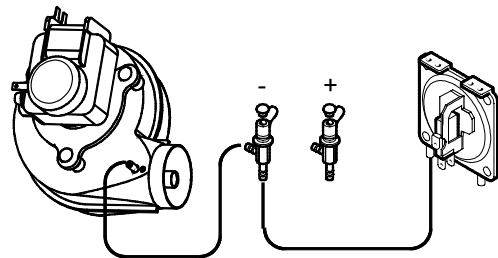

Figure 6
**Warning: To correctly connect the venturi device to the Air pressure switch, refer to Figure 6.**
**Warning: To correctly connect the Air pressure switch, refer to Figure 6 and Figure 3 for the correct wiring.**